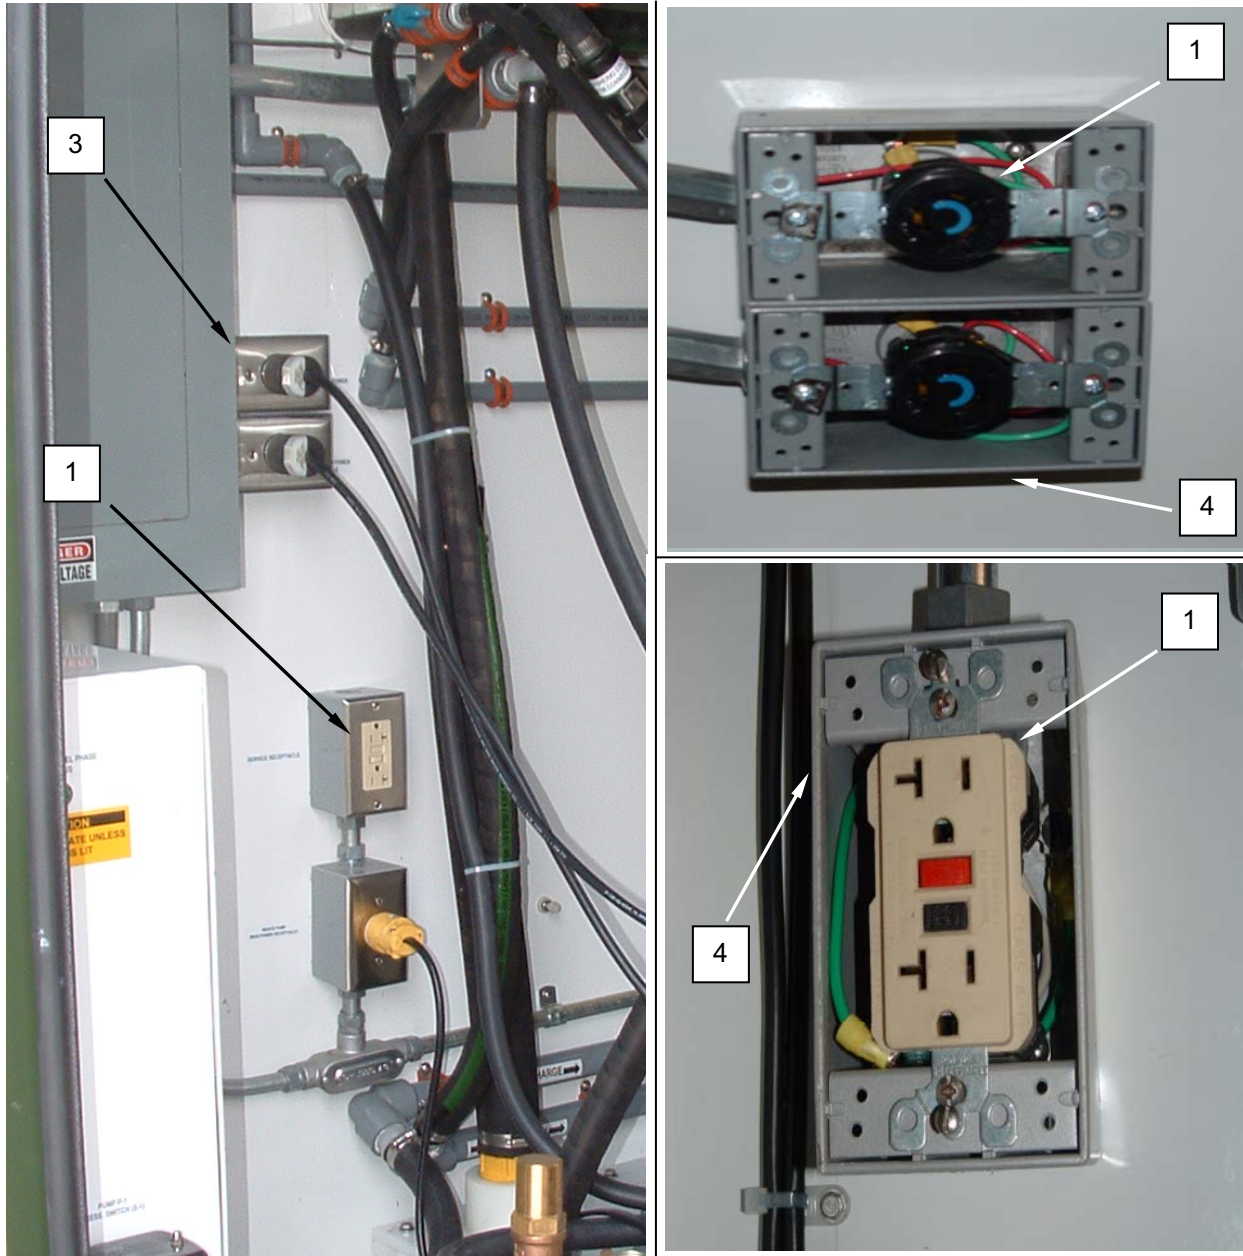

Figure 2. Replace a Receptacle.
1. Switch appropriate circuit breaker to OFF, and disconnect plug from the receptacle (**Figure 2, Item 1**). Refer to Table 2 as necessary.
2. Remove screws retaining receptacle cover (**Figure 2, Item 3**) and remove cover.
3. Remove screws retaining receptacle (**Figure 2, Item 1**) to box (**Figure 2, Item 4**) and remove receptacle.
4. Tag and disconnect wiring from receptacle (**Figure 2, Item 1**).
5. Connect wiring to replacement receptacle (**Figure 2, Item 1**) as tagged.
6. Install receptacle (**Figure 2, Item 1**) into box (**Figure 2, Item 4**) and retain with screws.
7. Install cover (**Figure 2, Item 3**), and retain with screws.